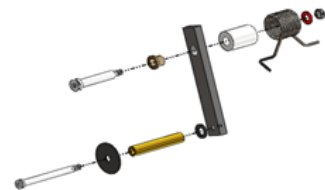

Figure 16. Cable Cop Exploded View.
3. **Using additional fasteners, secure the counter weight bracket to wall use at least 4 fasteners. See Figure 16.**